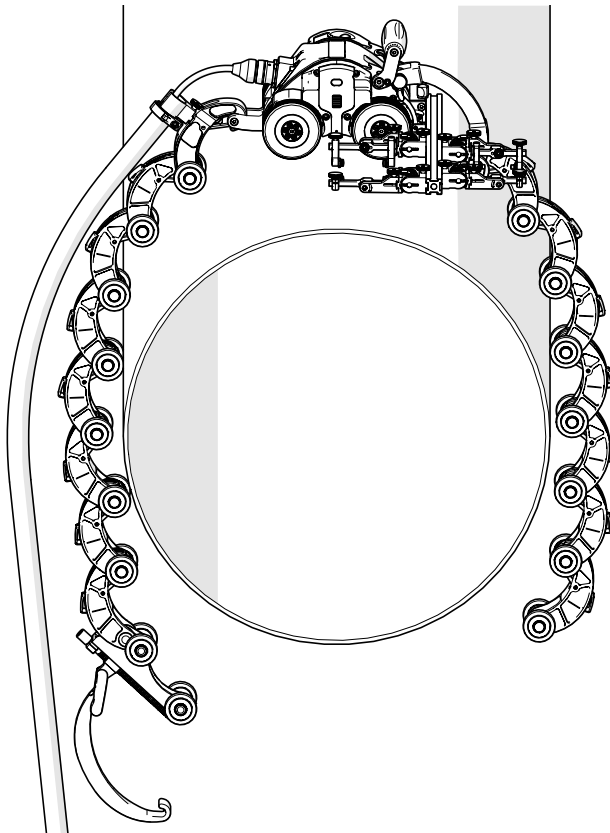

Fig. 166 - Place on pipe / tube
8. Drape the configured assembly around the pipe / tube to be inspected (Fig. 166).